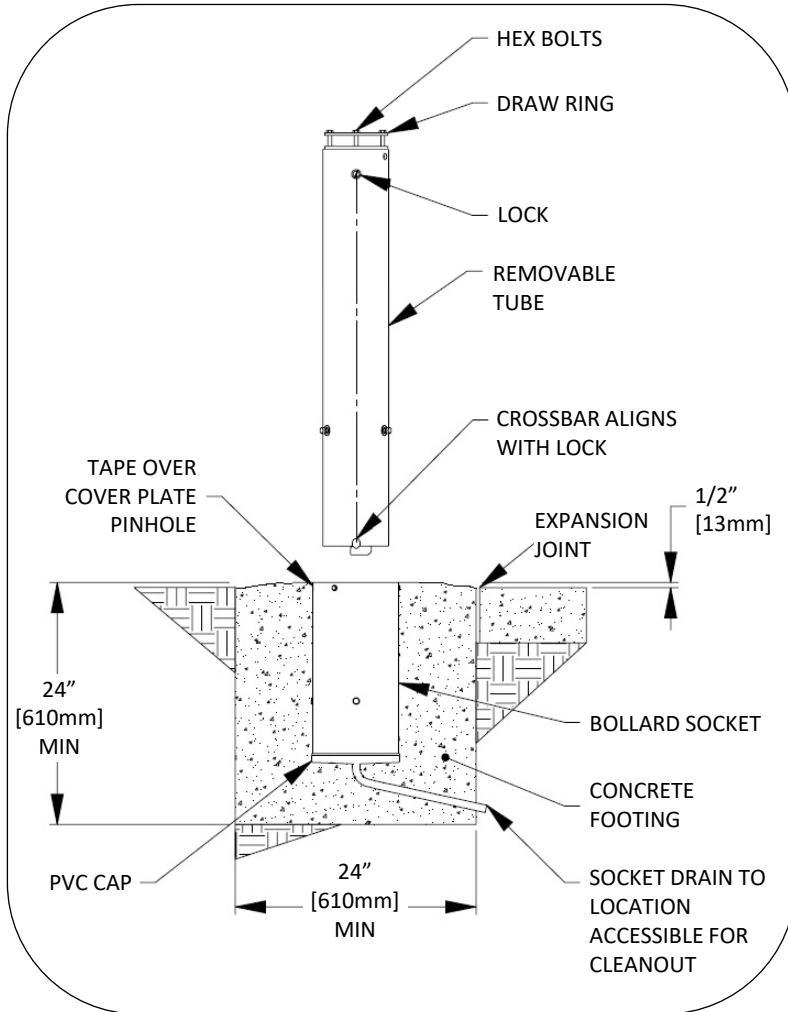
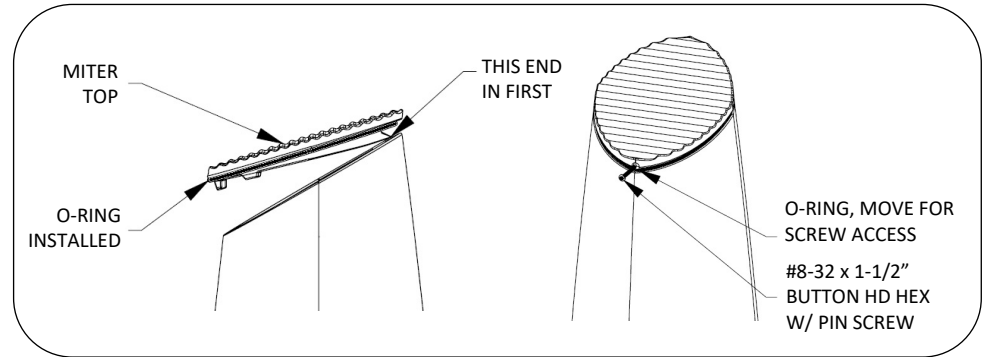

FIG. 2 – REMOVABLE SOCKET DETAIL
FIG. 3 – INSTALL MITER TOP
1. Excavate for socket footing and install drain, see Fig. 2. Depth of socket is 18". Depth of footing is 24" minimum, or as frost conditions require.
2. Before pouring concrete, ensure that the factory-installed tape covers the outside of the hole near the upper end of the socket, see Fig. 2. PVC cap may be cut to fit drain connection.
13. Install draw ring, see Fig. 2. Draw ring should rest on internal tabs of bollard body. Align draw ring holes with threaded holes on embedded tube.
14. Reinstall (4) hex bolts, tightening in an alternate pattern. **Do not overtighten.**
15. Install the top casting, see Fig. 3. **Do not overtighten screws.**